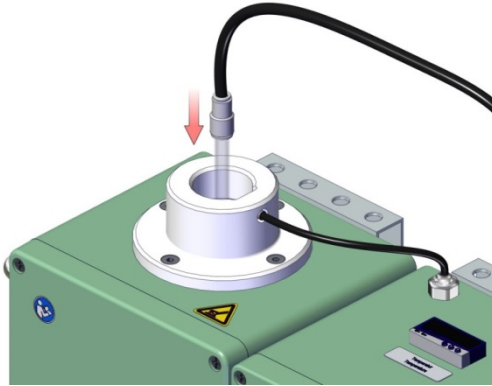

Figure 5.3.2
6. Insert the Quartz Tube, with the Measuring Tube attached, into the white Heating Protection Collar located on the left side of the apparatus. (See Figure 5.3.2).